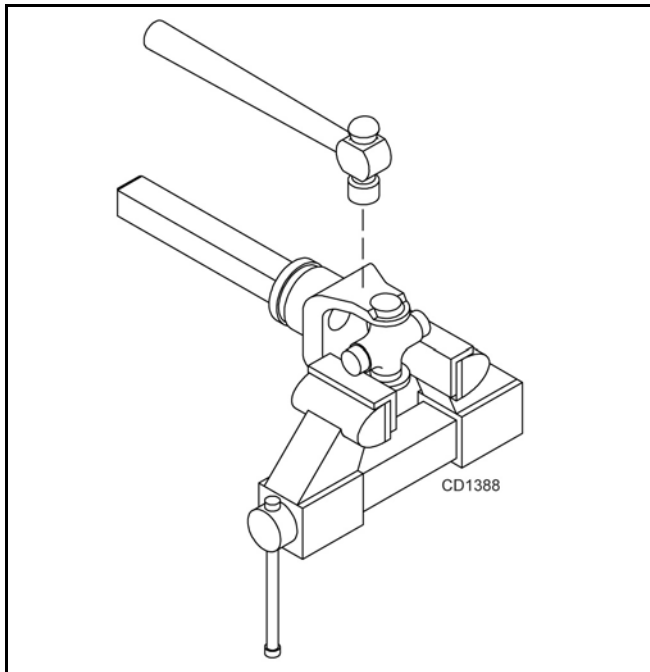

Figure 22
- Place universal cross in vise as shown in Figure 22 and tap on yoke to remove cup. Repeat Step 3 for final removal. Drive remaining cup out with a drift and hammer.